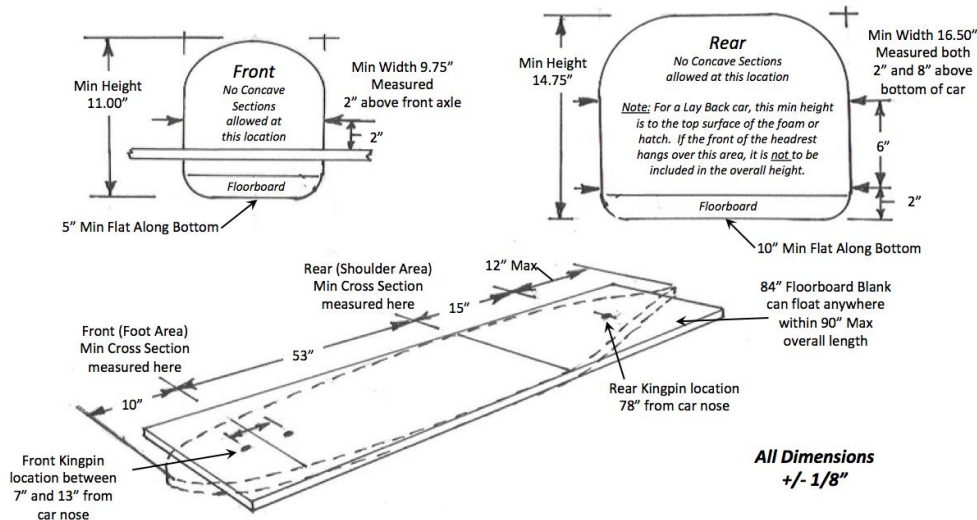
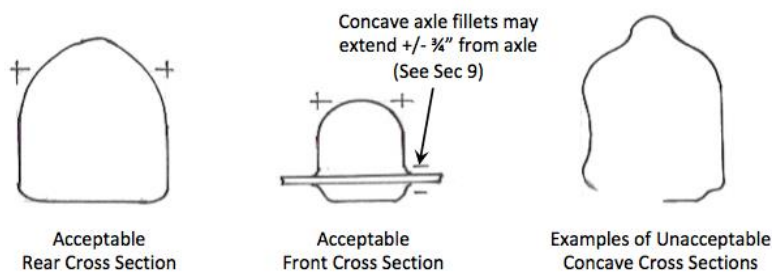

Figure 1
Figure 2
The basic approach to establish limitations on body geometry is accomplished by taking width and height measurements at two Body Control Locations, one 10" back from the nose (the foot area), and the other 63" back from the nose (the shoulder area) per Figure 1. When the body cross sections are viewed looking fore-aft at either of these Control Locations, concave sections are not allowed (see Figure 2). This means that for a Lay Back car, the headrest will likely need to start aft of the rear Control Location. For a Lean Forward car, if a rear-hinged headrest (see Section 5) extends back through the rear Control Location, the geometry must be blended with the main body in such a way as to avoid creating concave sections.
At the front Control Location, 10" from the nose, overall height and width are measured, per Figure 1. The width is taken at a level 2" above the top of the front axle top surface, to clear any axle fillets that may be present and is sized to ensure a sufficiently wide area to place the driver's feet.
At the rear Control Location, 63" from the nose, overall height and width at 2" and 8" above the floorboard bottom surface are measured, per Figure 1. The two width measurements in the rear, ensure adequate space for broad-shouldered drivers. At no point shall any portion of the body be wider than the axle square stock.
All measurements with regard to the body and floorboard dimensions, minimum ground clearance, and kingpin locations as outlined in this section and Figure 1 are plus or minus 1/8". This also applies to the hatch opening described in Section 5. Please note this tolerance is an absolute limit, meant to account for honest building errors, dimensional changes due to humidity, finish buildup, or other unforeseen factors. While it is the builder's prerogative to use these tolerances, in prior builders classes dimensional allowances were misunderstood or abused, creating issues. Please take this under advisement and build your car carefully, measuring each of the key dimensions multiple times as you go to ensure you remain well within the rule limitations. If prior to a race, your car is measured and found to be out of the dimensional limits you will be asked to correct the error prior to being allowed to race. Note, there is no tolerance allowed with regard to the requirement for concave surfaces at the two body control locations (see next section).
At the two Body Control Locations (10" and 63" from the nose respectively) the cross section when viewed looking fore-aft shall be flat or convex at any point around the body circumference. In other words, no concave surfaces are allowed at these two locations. The only exception to this will be for axle fillets at the axle/body intersection, which may run through the front Control Location (more on axle fillets in Section 9). If needed, this requirement will be checked by placing a straight edge against any section of the circumference that appears to be concave. If a thin 0.010" feeler gauge can be passed between the straight edge and the surface of the body or floorboard, the surface there shall be deemed concave and will need to be filled or otherwise addressed prior to racing. Note, concave surfaces *are* allowed ahead of, in between, or aft of the two Body Control Locations, but at these two locations the body cross sections must be entirely flat or convex. See Figure 2 for examples.
The bottom of the floorboard must be left flat over the minimum widths shown in Figure 1. In between these two locations, the floor must be also remain flat, tapering evenly from a 10" wide minimum flat section at the rear Control Location down to 5" wide minimum flat area at the Front Control Location. Forward, aft, and outboard of these locations, the floorboard is allowed to have curvature. This is done to ensure the cars sit securely on saw horses and trailers, making them easier and safer to handle.
**Special Note:** All finishes on the flat area under the floorboard must remain transparent. The flat area is defined as the trapezoidal area formed by the 5” minimum flat width at the Front Body Control Location and the 10” minimum flat width at the Rear Body Control Location and the area in between (see Fig. 1). This means if carbon fiber type fabric or other opaque materials are used, they must not extend onto this portion. This area must not be painted or primed, but can be covered with clear finishes. Glass cloth will be considered a clear finish if put in place with a transparent resin. The reason for this is to help ensure the floorboard remains unaltered and contains no elements not allowed by the rules outlined here. Note other methods of inspection may also be employed to help ensure the floorboard is unaltered.